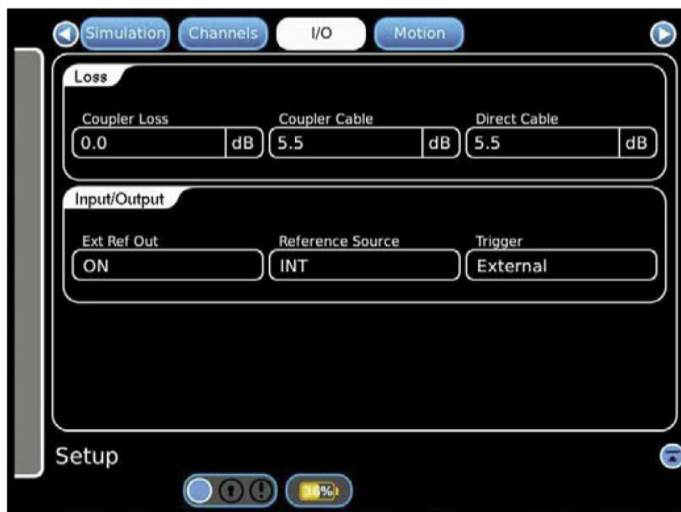

Figure 3
4. On GPSG-1000 #1 Menu Bar select Setup. On the Setup screen at the top row select the I/O tab. Set Ext Ref Out to ON, Reference Source to INT, and Trigger to External. See Figure 3.